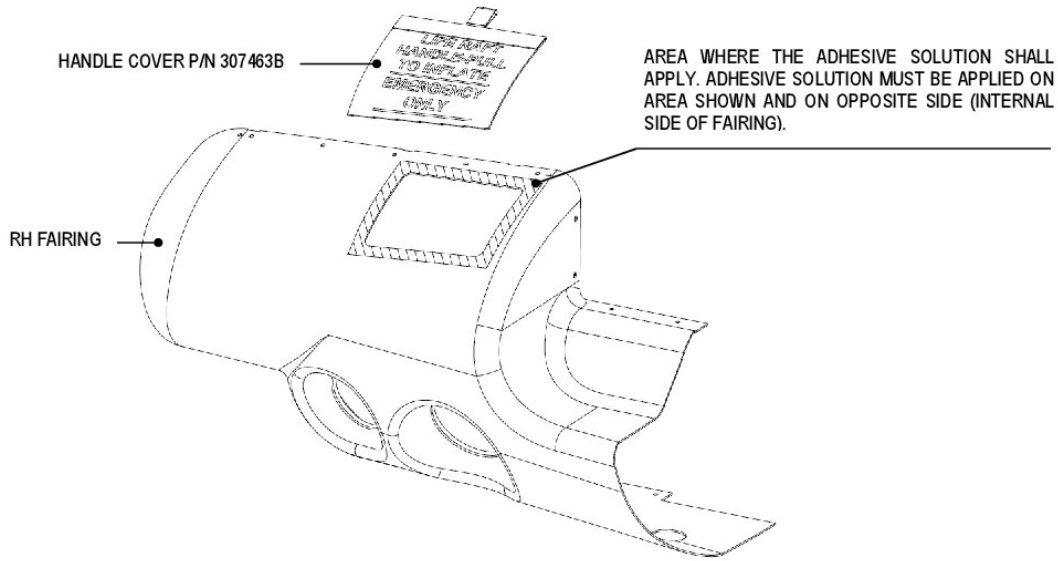

Figure 1 – Area to be bonded
- (2) Prepare the bonding area of Fairing and new Handle Cover P/N 307463B, ref to figure 1.
- (3) Apply three coats of polyurethane adhesive to each of the mating surfaces (Fairing and Handle cover), see figure 1.